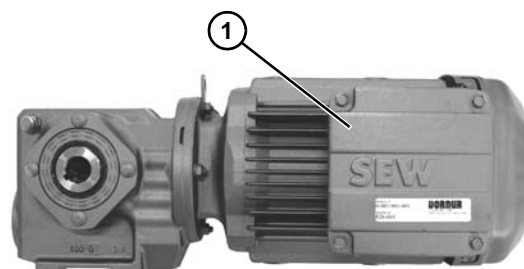

**Figure 7**
- Tighten screws (**Figure 7, item 1**) to 146 in-lbs (16.5 N-m) and install anti rotation pin (**Figure 7, item 2**).